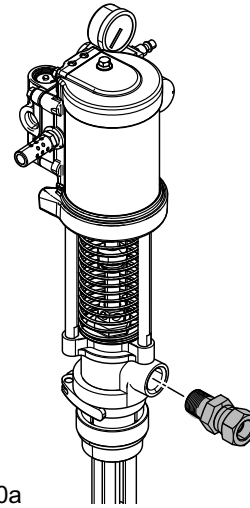

FIG. 7
3. Apply thread sealant to the male outlet fitting (not supplied) and insert into the outlet port. See FIG. 7.